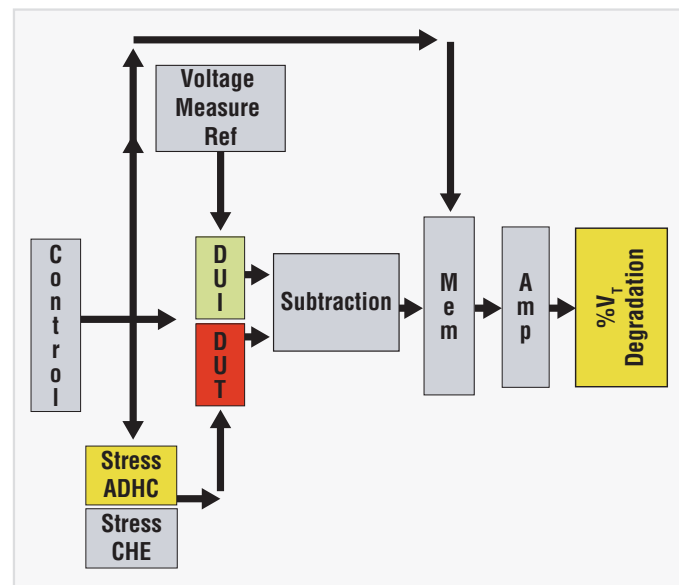

Figure 1: Hot Carrier Damage Prognostic Cell block diagram
The Ridgetop Hot Carrier (HC) Damage Prognostic Cell, shown in Figure 1, is a pad-limited CMOS hot carrier damage/failure detection cell. Its unique and proprietary architecture behaves as an early-warning “sentinel” of